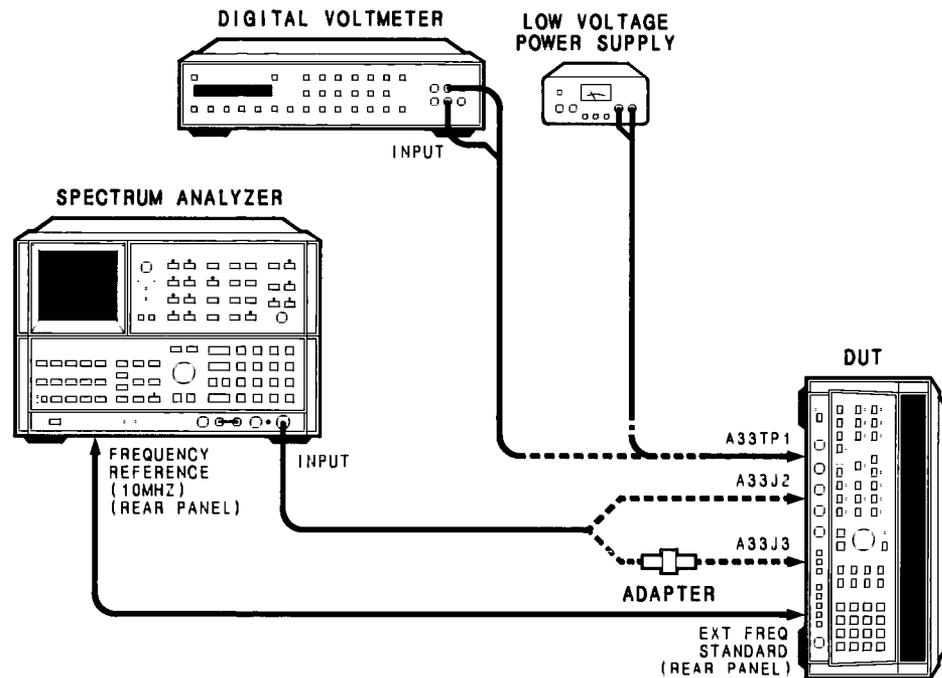

Figure 5-7. M/N Loop Adjustment Setup
1. Position the DUT in the test position as shown in Figure 5-7 with bottom cover removed. On the DUT's rear panel, disconnect the BNC cable connected between INT and EXT Frequency Standard connectors, set INT/EXT switch to EXT, then connect a BNC cable from the DUT's EXT connector to Spectrum Analyzer Frequency Reference (10 MHz) rear-panel connector. Allow one-half hour warm up time.